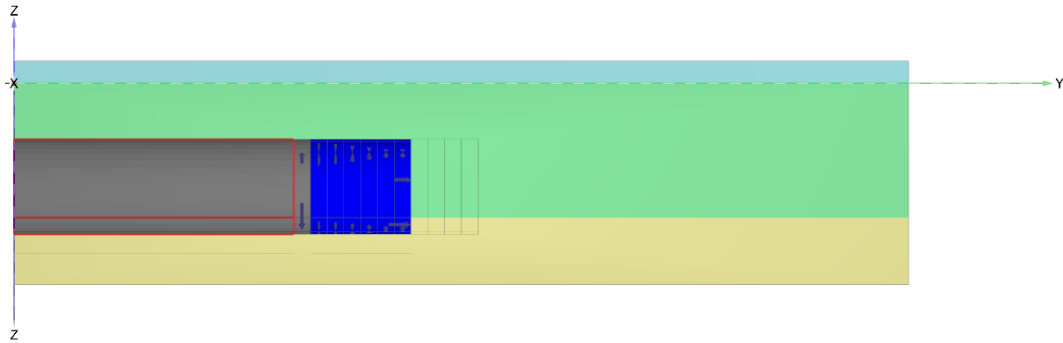

Figure 85: Deactivated soil volumes corresponding to final lining(0 m - 25 m), wireframe view
- a. In the drawing area select the soil volumes representing the final lining of the first 25 m of tunnel and deactivate them (Figure 85 (on page 110))